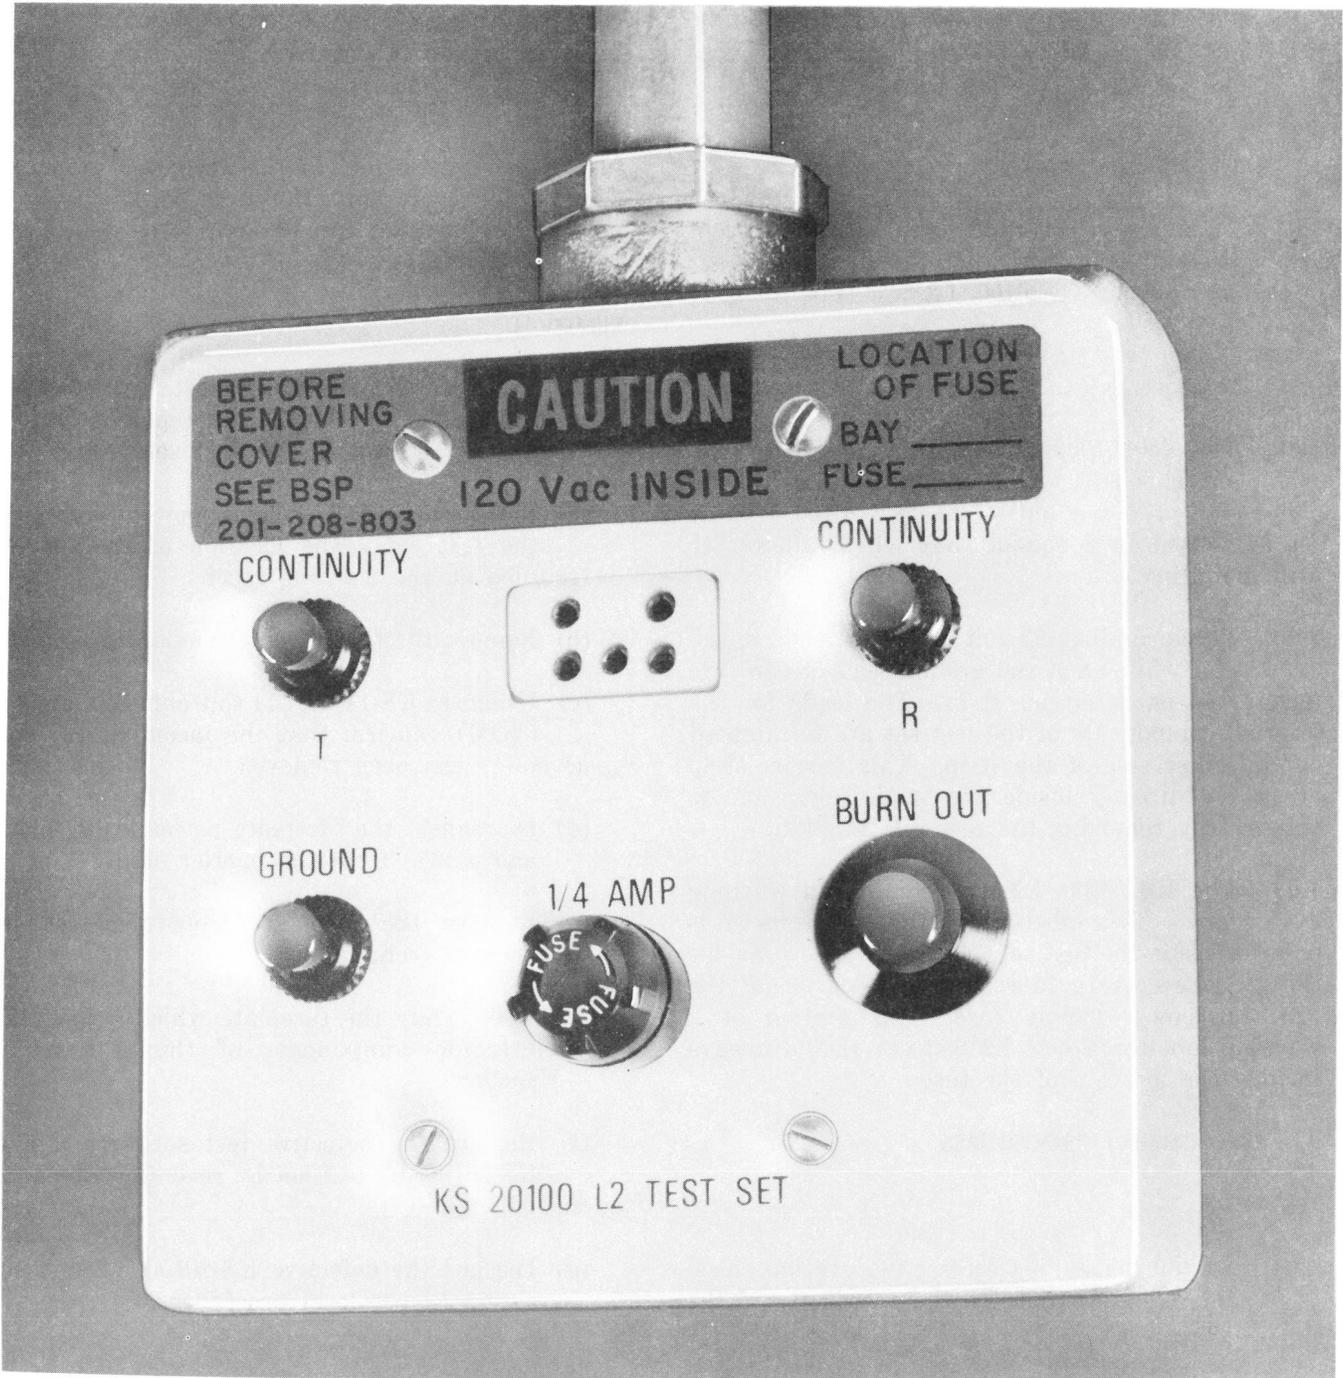

Fig. 1—KS-20100, L2 Test Set
1.03 The KS-20100, L2 test set is shown in Fig. 1. This test set is used in testing the 3- and 4-type protector units. The KS-20100, L2 test set is housed in a conduit box which allows for wall mounting.